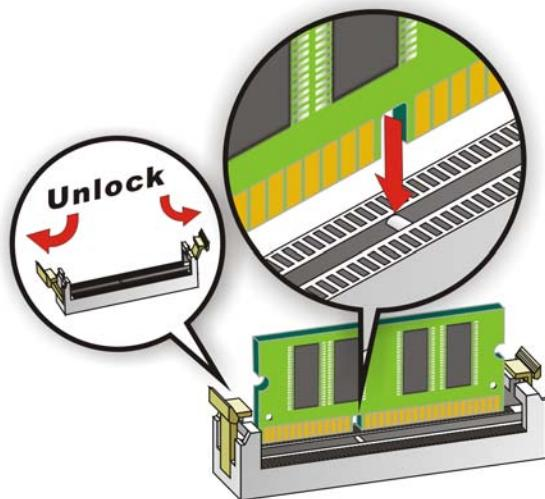

Figure 4-1: SO-DIMM Installation
To install a SO-DIMM, please follow the steps below and refer to **Figure 4-1**.
Step 1: Open the SO-DIMM socket handles. Open the two handles outwards as far as they can. See **Figure 4-1**.
Step 2: Align the SO-DIMM with the socket. Align the DIMM so the notch on the memory lines up with the notch on the memory socket. See **Figure 4-1**.
Step 3: Insert the SO-DIMM. Once aligned, press down until the SO-DIMM is properly seated. Clip the two handles into place. See **Figure 4-1**.